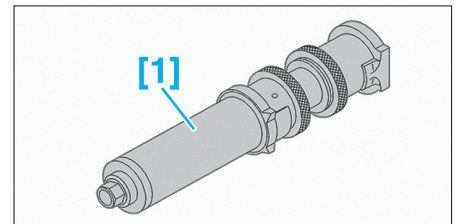

FIG. 11
- [1]. Outil de compression (Fig.11).